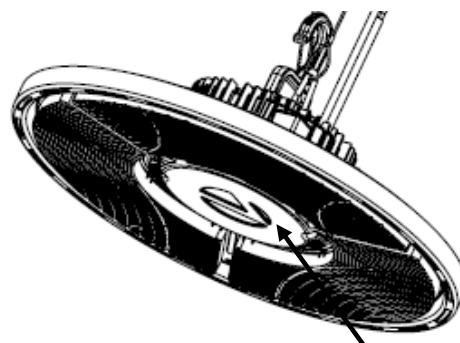

Figure 1
1. Remove the CPRB Cover Plate shown in **Figure 1** by unscrewing the two T-20 screws holding it in place